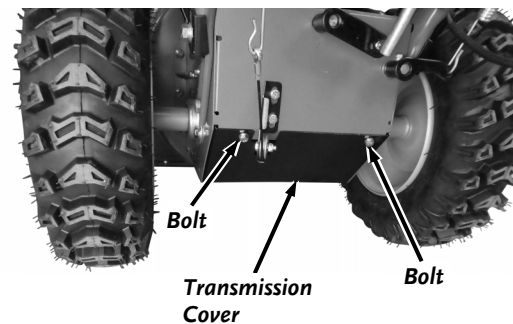

Figure 54
3. Remove the two Bolts that secure the Transmission Cover using a 13mm Wrench and Remove the Transmission Cover (**Figure 54**).